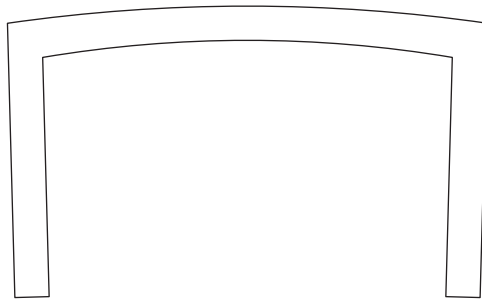

Figure 2.43
- Carefully measure the internal width of the channel at the corners – not the open ends. The reason for this is that channel is rarely square (perhaps as a result of being clamped unsupported in a vice whilst being cut to length). See Figure 2.43.